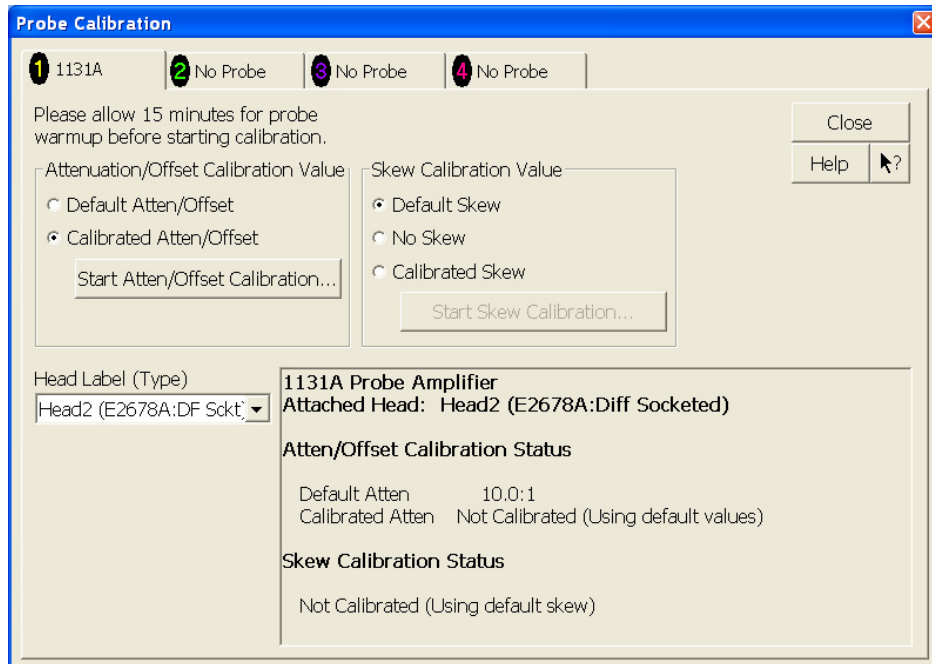

Figure 62 Probe Calibration Window.
- 4 Referring to Figure 62 below, perform the following steps: